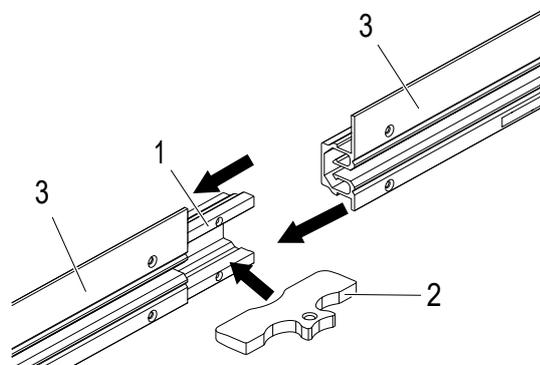
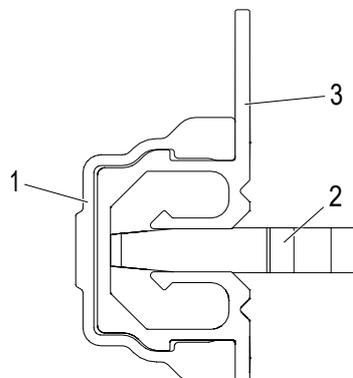
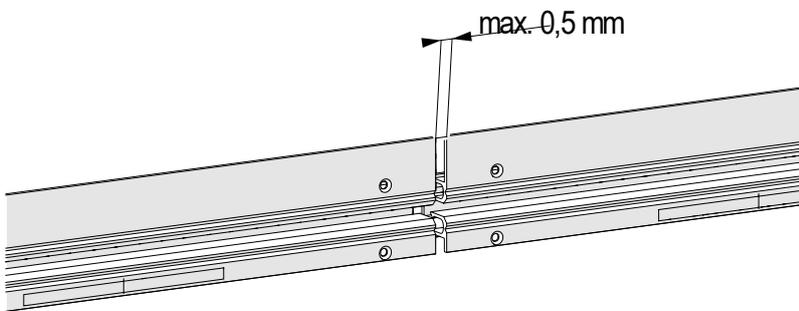
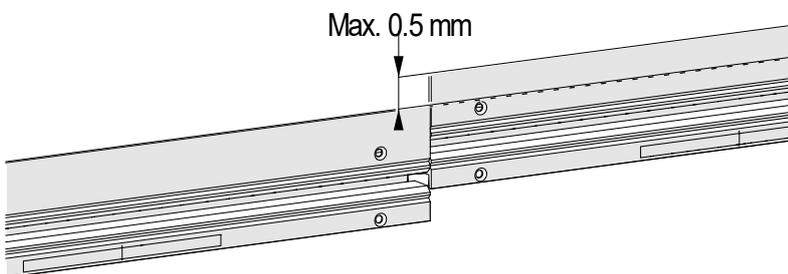

Fig. 77: Mount connector onto ProfiDAT®compact rail
Fig. 78: Mounting aid at connection point
Fig. 82: Maximum offset of connection point in X-direction (direction of travel)
Fig. 83: Maximum offset of connection point in Y-direction
- Slide the connector (1) onto ProfiDAT®compact Rail (3) up to the center. Then slide the second ProfiDAT®compact rail (3) into the connector (1).
- To avoid an offset in at the connection point (see Fig. 82: Maximum offset of connection point in X-direction and Fig. 83), insert the mounting aid (2) into the connector point (see Fig. 77). Insert the mounting aid (2) into the ProfiDAT®compact rail in such a way that it lies flat against the inner surface of the rail (see Fig. 78).
The two profiles must directly abut each other! The gap between the rails may not be more than 0.5 mm in the X-direction (travel direction) (see Fig. 82: Maximum offset of connection point in X-direction)!